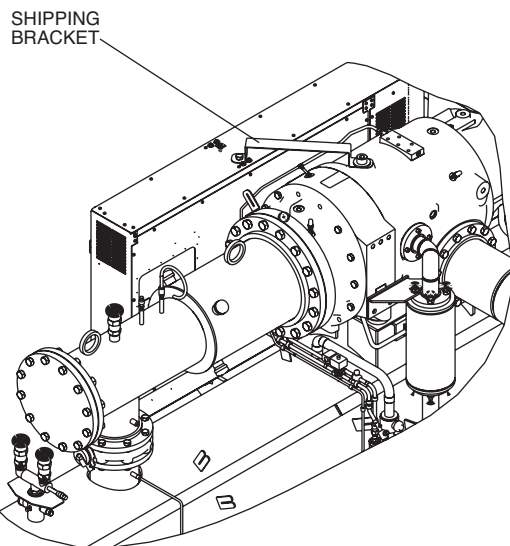

Fig. 16 — VFD Shipping Bracket
2. Remove the shipping bracket between the VFD and the compressor if it is still in place. Remove any conduits that bring power to the VFD. See Fig. 16.